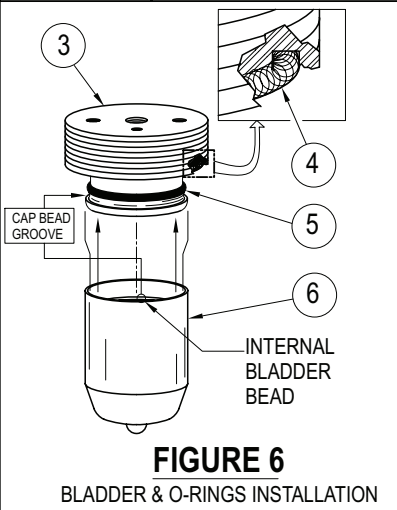

FIGURE 6
2. Install new O-rings into body and cap (see FIGURES 6 and 7).
3. Install bladder onto cap (See FIGURE 6) making sure the top of the bladder is next to cap lip, and the internal bladder bead is in the cap bead groove. Spraying bladder and cap edge with a solution of soap and water will ease bladder installation; DO NOT use oil or grease.
4. If bubbles occur around cap thread, remove all dampener pressure, remove cap and inspect that the bladder is properly seated on the cap, and that both the cap and body O-rings are installed properly and not damaged (see FIGURES 6 & 7).